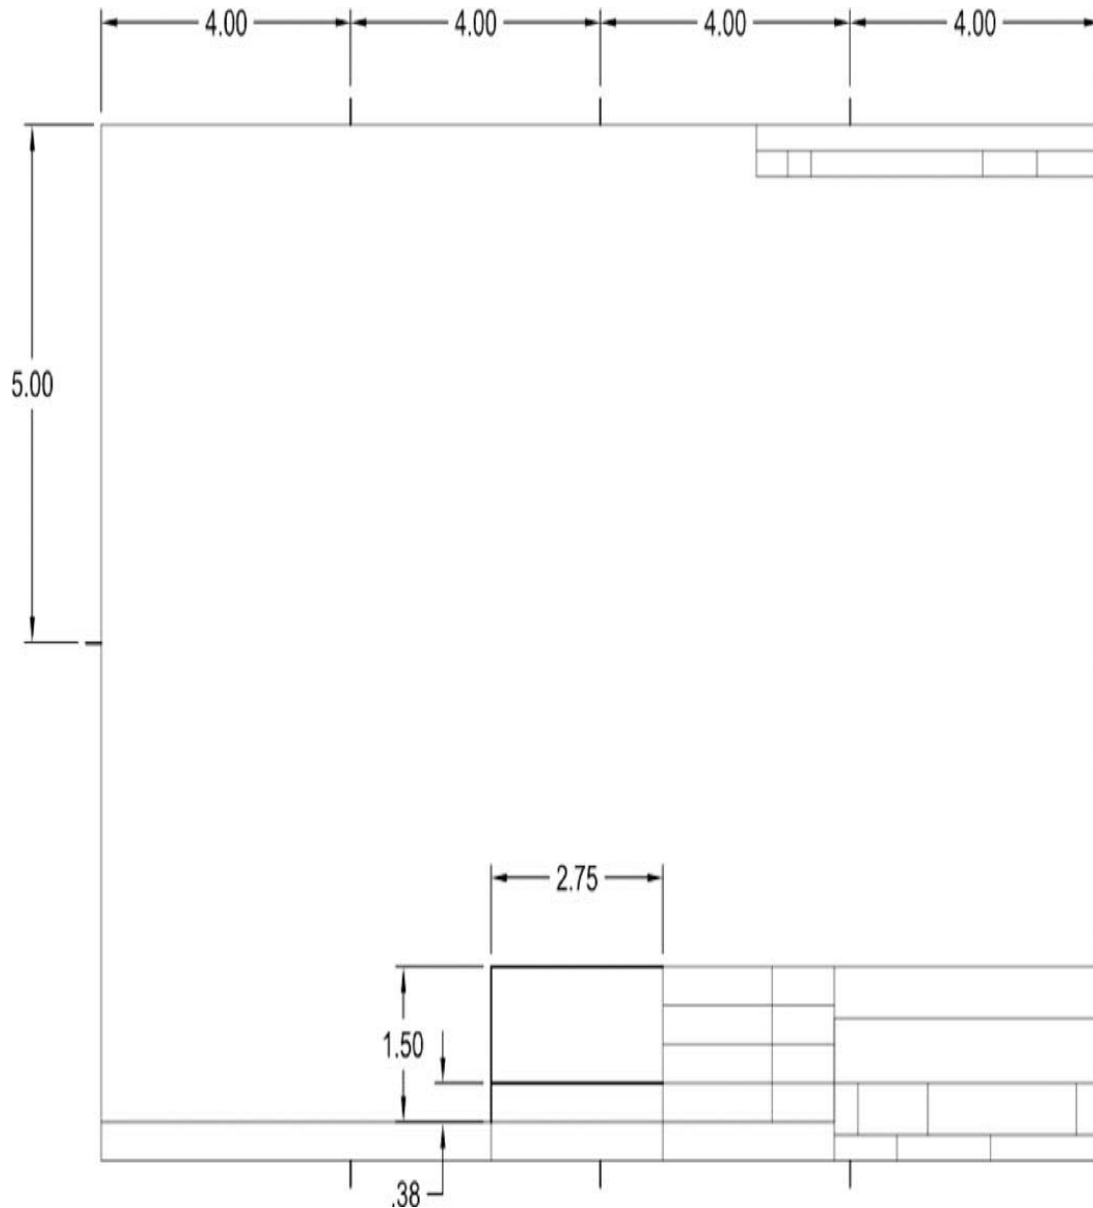

Figure 6-39
- Add the line work shown in Figure 6-39 to the drawing. Use the **Title** layer for all geometry. **Do not** draw dimensions.